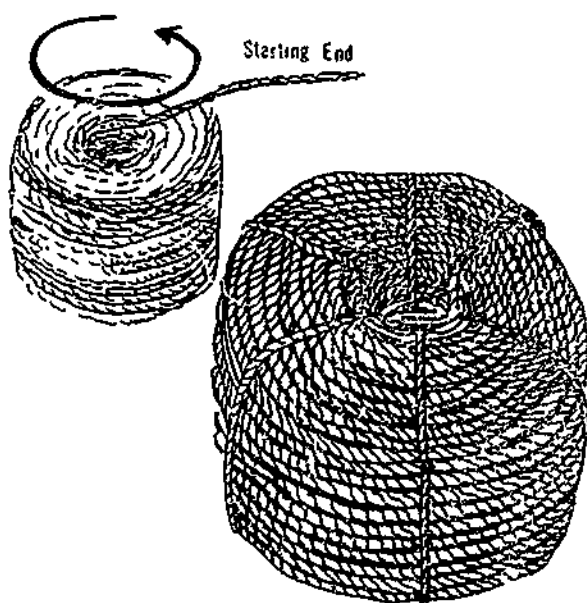

Figure 7-37. Uncoiling a Coil of Fibre Line
**Coiling and Uncoiling** New natural fibre line is delivered in coils of 600'-1200' and lashed or bound. Generally an instruction tag will accompany the coil. After cutting the bindings or lashings, grasp the line end inside the coil at the bottom and pull it up through the middle to prevent kinks from forming (Figure 7-37).